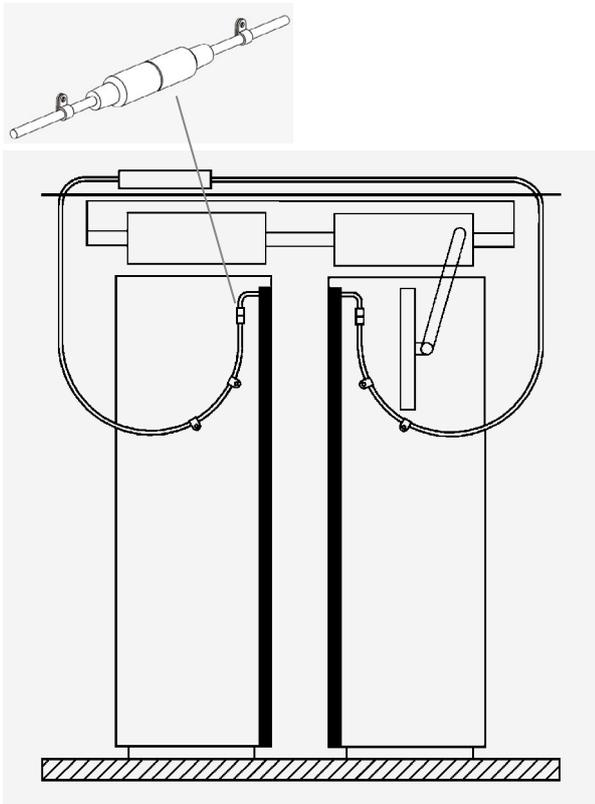

Fig 1: Avoid over-tightening cable ties
4. Connect the Transmit (TX) and Receive (RX) leads into the Controller sockets as marked
5. On completion, carefully open & shut doors by hand to check the travelling cable (015 199) has a smooth free movement and is not liable to snag on anything during normal operation otherwise there is a risk of leads being damaged by the lift doors or caught up when lift moves. See Fig1.